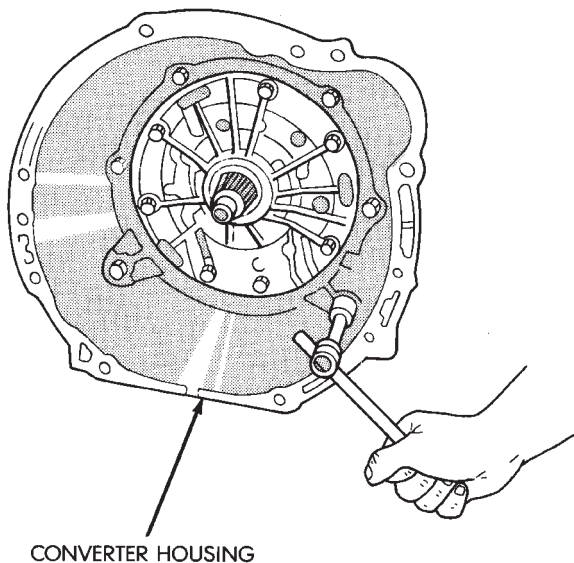

Fig. 84 Converter Housing Removal
- (3) Remove shift lever from manual valve shaft at left side of transmission.
- (4) Remove park/neutral position switch.
- (5) Remove speed sensor.
- (6) Remove converter housing bolts and remove housing (Fig. 84) from case.